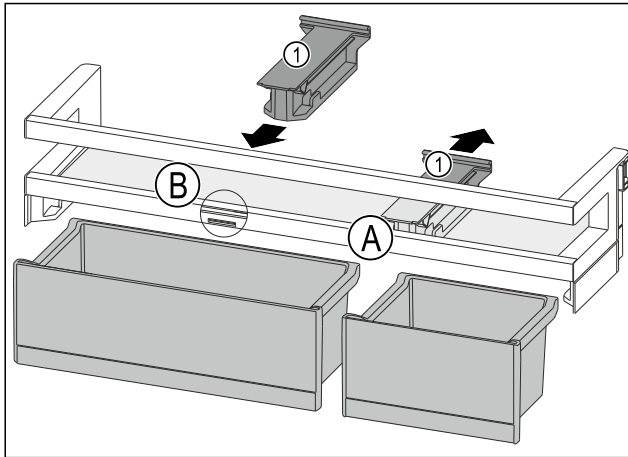

Fig. 188
- Take off the holding part Fig. 188 (1) in position Fig. 188 (A) backwards.
- Insert the holding part Fig. 188 (1) in position Fig. 188 (B).